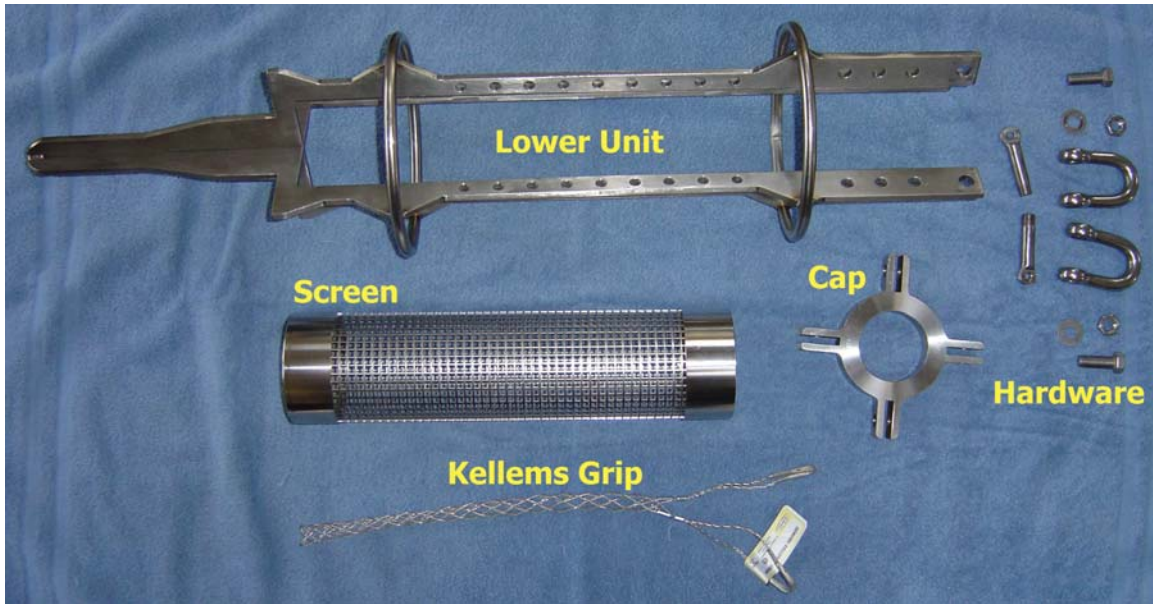

Figure 3 - M-Light kit disassembled
2. Remove and set aside the Cap, Screen, and Hardware parts as shown in Figure 3.